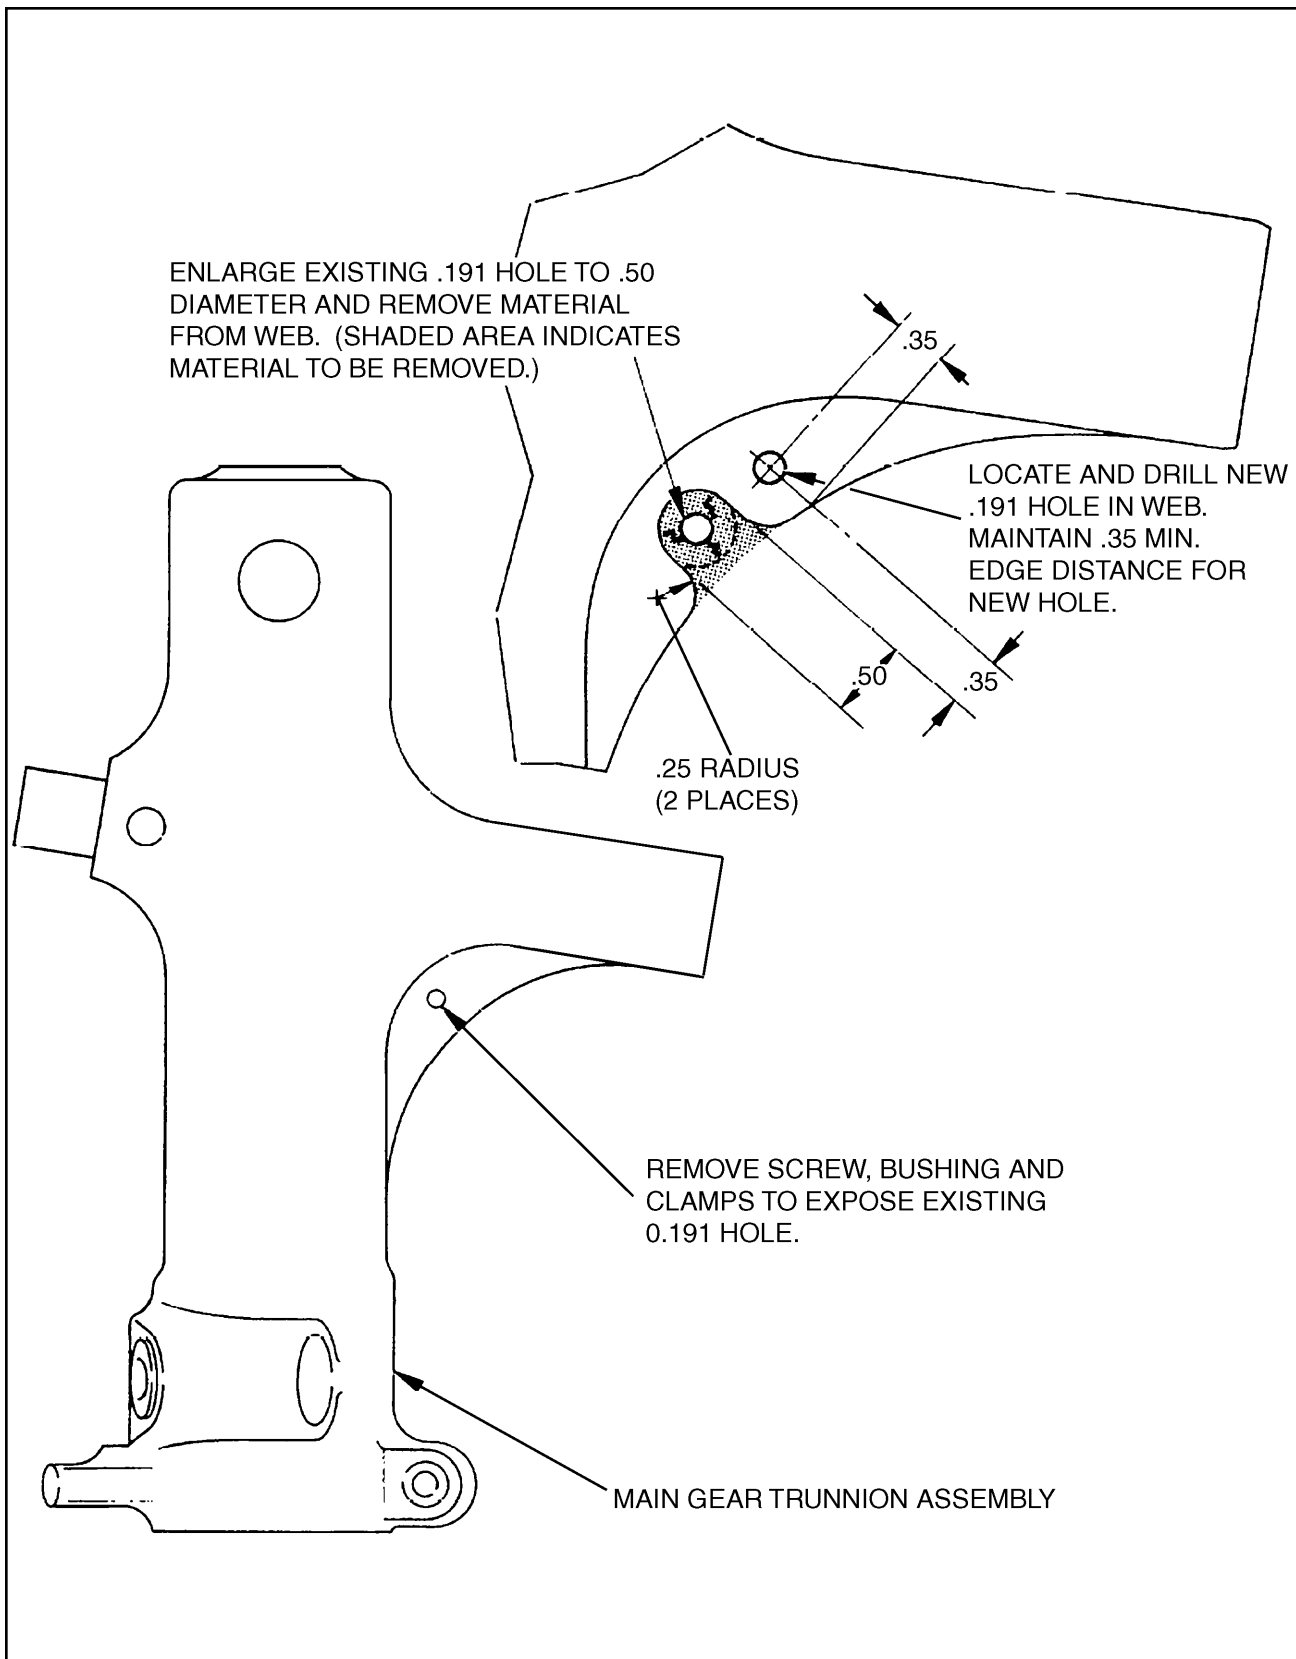

Figure 7A-9a. Main Landing Gear Trunnion Repair
7A-24a.MAIN LANDING GEAR TRUNNION REPAIR. (Refer to Figure 7A-9a.)
- b. Add a .191 inch hole in the location shown on Figure 7A-9a and deburr the hole.
- c. Enlarge the former .191 inch hole to .500 inch diameter and remove material from web as shown on Figure 7A-9a. Deburr edges where material is removed and polish cutout to remove all scratches; nicks and irregularities.